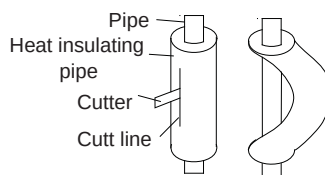

Fig.15
- (2). Do not bend the pipes in an angle more than 90° .
- (3). When pipes are repeatedly bent or stretched, the material will harden, making it difficult to bend or stretch them any more. Do not bend or stretch the pipes more than three times.
- (4). When bending the pipe, do not bend it as is. The pipe will be collapsed. In this case, cut the heat insulating pipe with a sharp cutter as shown in Fig.15, and bend it after exposing the pipe. After bending the pipe as you want, be sure to put the heat insulating pipe back on the pipe, and secure it with tape.
Hold the torque wrench at its grip, keeping it in the right angle with the pipe as shown in Fig. 15, in order to tighten the flare nut correctly.